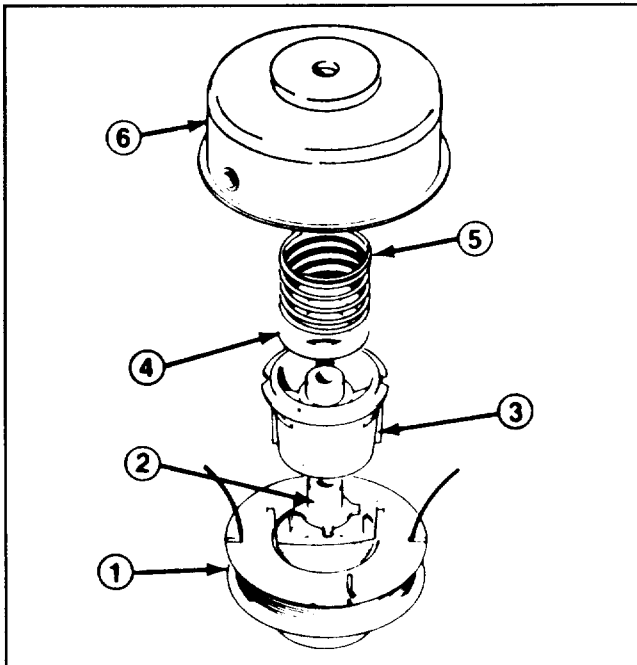

Figure 22
3. Hold drum securely and unscrew spool core in counterclockwise direction. This will unscrew the driver (Fig. 22).